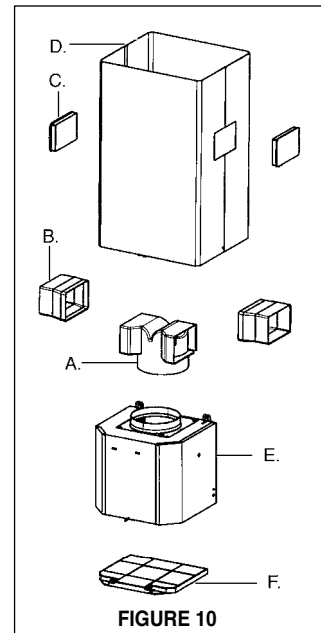

FIGURE 10
Ductless installations require a **Ductless Conversion Kit** whose components are pictured in FIGURE 10. Do not use the DAMPER (N in FIGURE 1) for ductless installations. The LOWER CHIMNEY COVER (B in FIGURE 1) should be discarded and replaced by the new one with holes from the **Ductless Conversion Kit** (D in FIGURE 10).
As indicated in FIGURE 10, place the DUCTLESS DIVERTER (A) over the exhaust opening of the EASY CUBE (E). Fit the DUCTLESS DIVERTER EXTENSIONS HORIZONTAL (B) into the DIVERTER (A).
For ductless installations, line up the DUCTLESS DIVERTER EXTENSIONS HORIZONTAL (B in FIGURE 10) with the holes in the LOWER CHIMNEY COVER (D in FIGURE 10) and snap in the VENT GRIDS (C in FIGURE 10).
- For ductless installations, install the CHARCOAL FILTER (F in FIGURE 10) behind the center grease filter opening by inserting and locking into place. See FIGURE 14